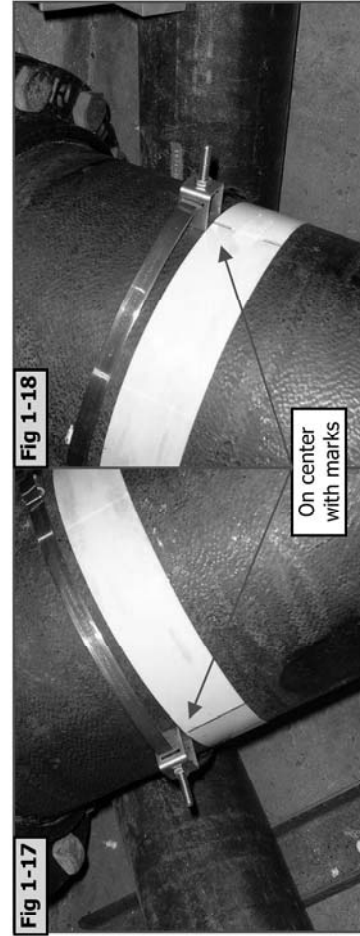

Fig 1-17
- Reinstall the template. Locate it next to one of the most outer strap locations. Align the marks of the template to the horizontal plane of the pipe. Now align the keepers, on center, with the marks on the template. See Fig 1-17 and 1-18. (Note: It is important to maintain alignment of this set of keepers throughout the remaining process. This is the reference point when mounting the housings and aligning and manipulating the remaining Keepers.)